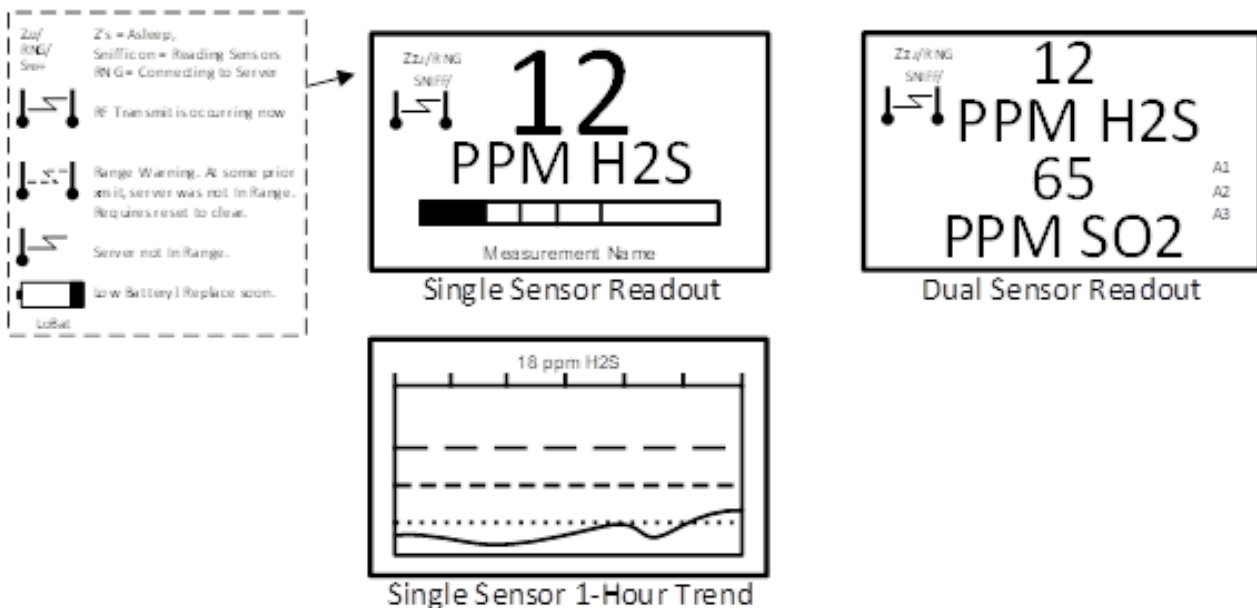
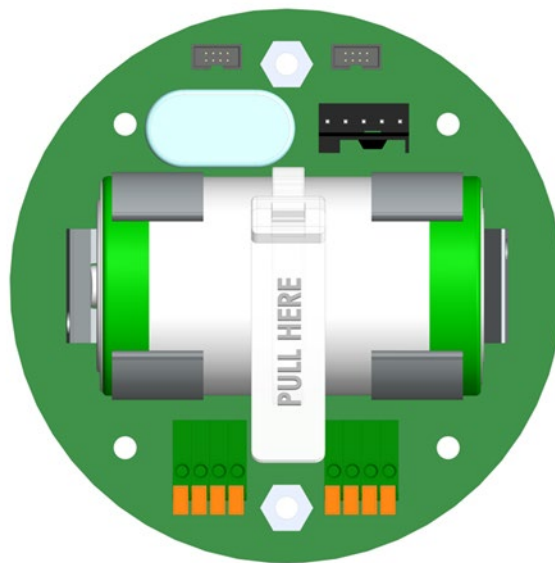

Figure 4-1 – Readout Screen
Figure 4-2 – Battery Board
The enclosure is NRTL (Nationally Recognized Testing Laboratory) certified for Division 1 hazardous area installations for explosion-proof Class 1 Groups A, B, C, D (see Figure 4-1). The TXP-WTA Sensor Transmitter is designed to meet ISA 92.0.01 Part 1 for Toxic Monitors. The standard antenna fitting has an RP-TNC connector and is suitable for Division 2 classified areas. An optional explosion-proof dipole antenna is also available for Division 1 classified areas. Figure 4-2 shows both antenna styles.
Standard enclosures of TXP-WTA Sensor Transmitters are cast aluminum explosion-proof (NEMA 7), as shown in Figure 4-1, and the polycarbonate enclosure shown in Figure 4-2. Modular design simplifies the installation of the TXP-WTA Sensor Transmitter. The TXP-WTA Sensor Transmitter antenna should typically be mounted with line-of-site access to the controller and/or WAR antenna(s). If a quality line-of-site angle is not possible, the TXP-WTA Sensor Transmitter will usually still function properly at the following ranges—however, obstructions should still be kept to a minimum.
**SENSOR TRANSMITTER TO A WALL OR BRACKET USING THE PRE-DRILLED MOUNTING FLANGES WITH I.D. 0.3 ON 5.0' CENTERS (SEE FIGURE 4-1)**